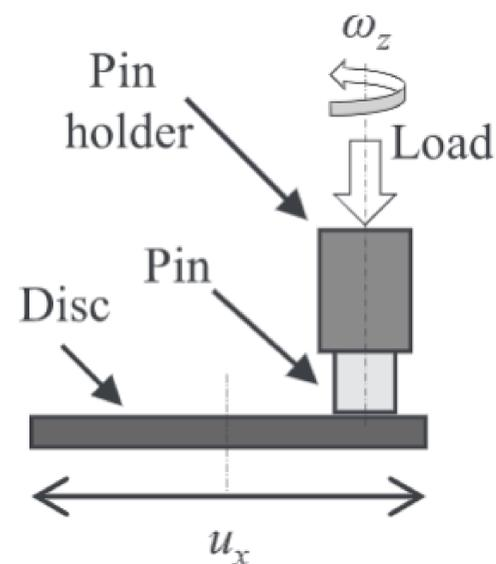

Figure 2: Schematic of the proposed pin-on-disk fixture. Motions include the horizontal translation of the disk and the axial rotation of the pin3
- Fixture should simulate physiological multidirectional motion of the knee (Fig. 2)